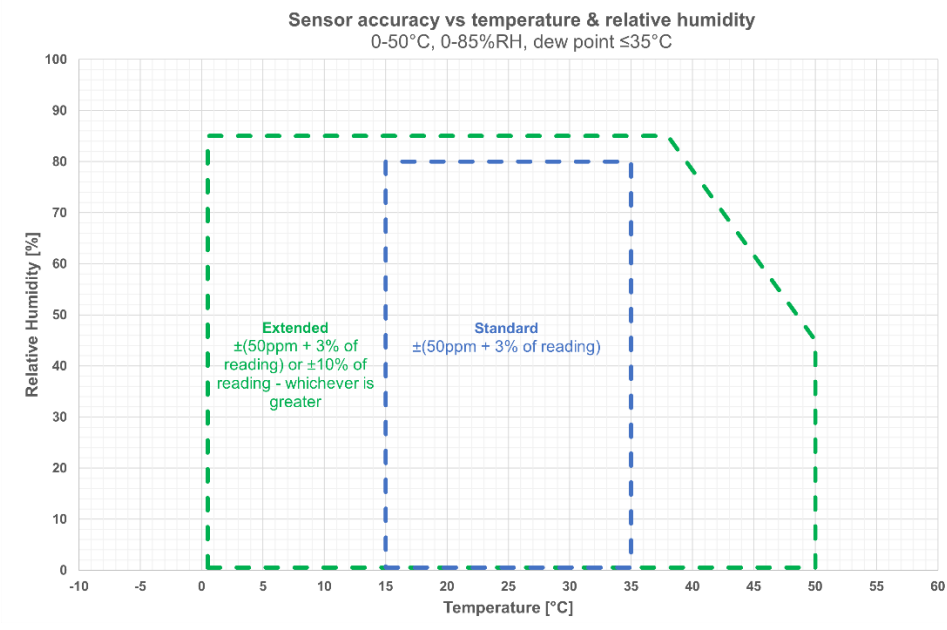

Figure 4. Accuracy over complete operating range (temperature and relative humidity)
Operating range	0–50 °C, 0–85% RH (non-condensing), (see figure 4)
- Note 2: ANSI/ASHRAE Addendum ab to ANSI/ASHRAE Standard 62.1-2022 specifies sensor to be accurate within ±75 ppm at concentrations of 600, 1000, and 2500 ppm when measured at sea level at 77 °F (25 °C). See figure 4.
Note 9: nRDY output pin disabled. See Figure 4 Average current.